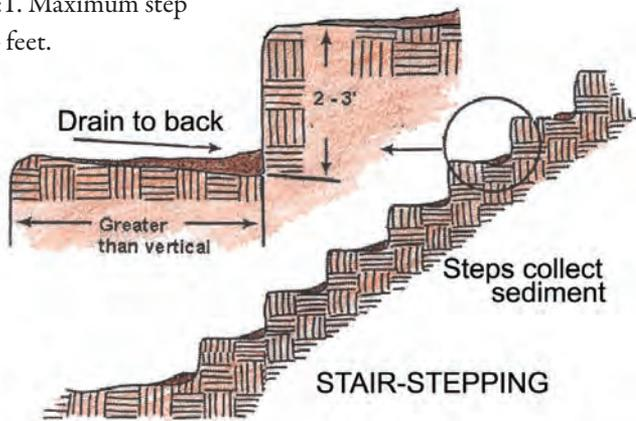

Figure 4.2. Stair-step grading to protect slopes.
**Stair-step grading:** Benching or cutting stair-steps into slopes. Each step slopes towards the vertical wall (Figure 4.2). This works well with soils containing many small rocks.